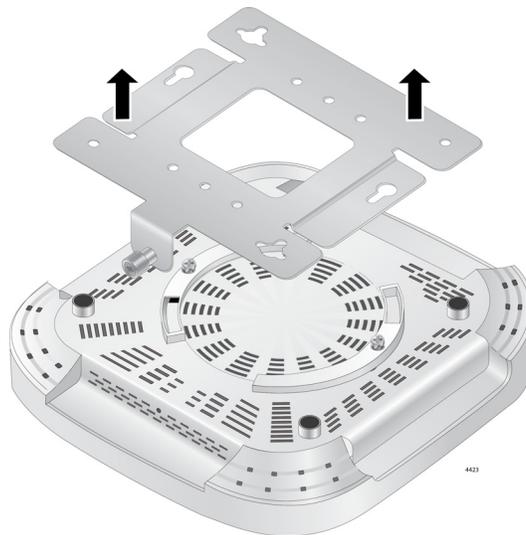

Figure 7. The Access Point with Two Screws Attached
4. Slide the mounting bracket forward and temporarily remove it from the access point so the bracket can be independently mounted on the ceiling or wall in the next steps. Refer to Figure 7.